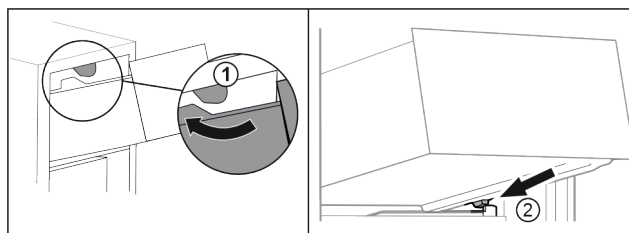

Fig. 14
- Guide drawer around the upper stoppers. Fig. 14 (1)
- Place drawer at an angle behind the lower stoppers onto moulded rib. Fig. 14 (2)